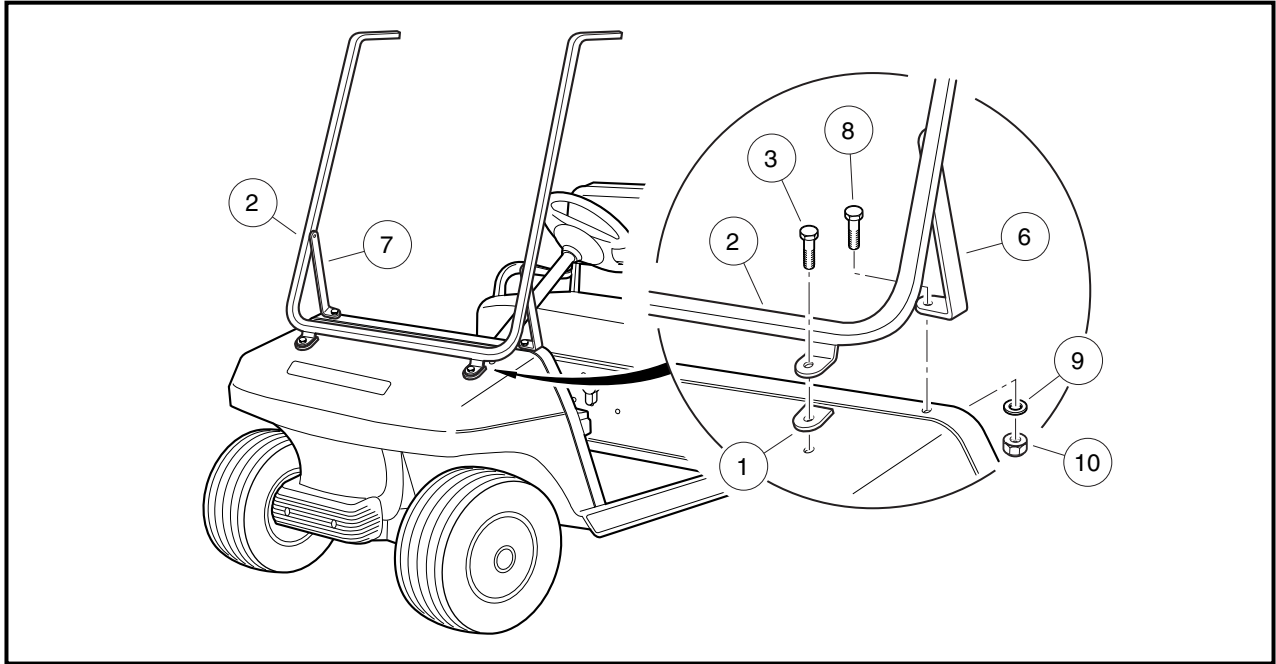

Figure 4 Secure Windshield Frame to Front Body
- 2.3. Position the two windshield frame mounting pads (1) between the bracket and front body as shown (**Figure 4**).